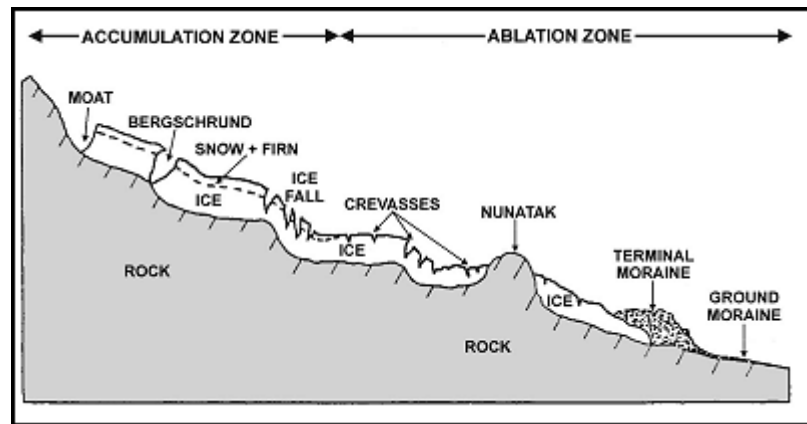
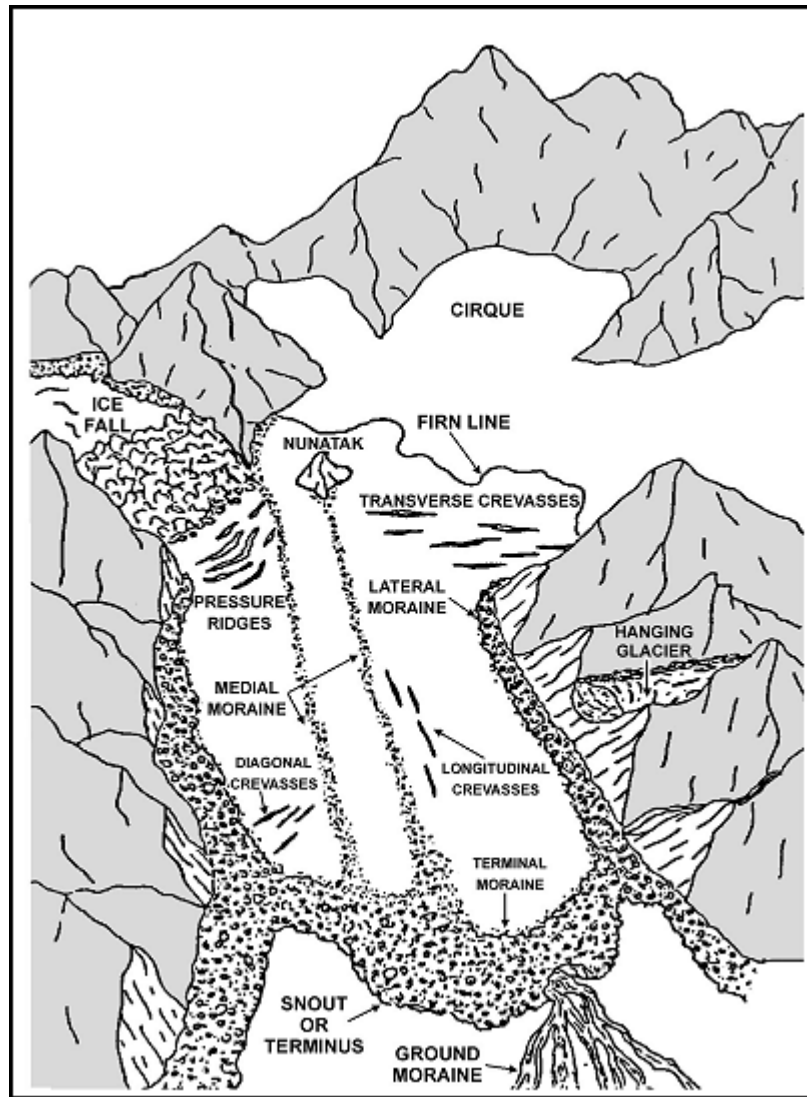

Figure 10-21. Glacier cross section.
Figure 10-22. Glacier features.
a. **Characteristics and Definitions.** This paragraph describes the common characteristics of glaciers, and defines common terminology used in reference to glaciers. (Figure 10-21 shows a cross section of a glacier, and Figure 10-22 depicts common glacier features.)